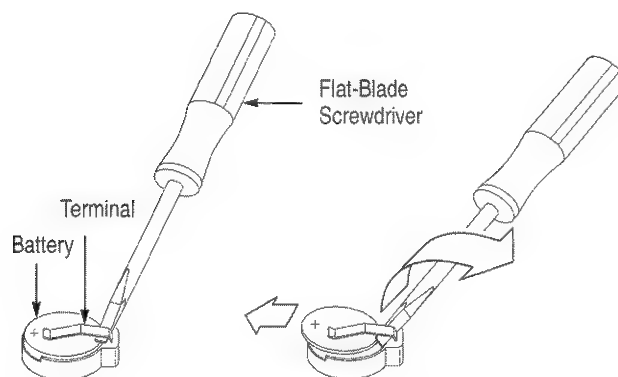

Figure 7-9: Prying Battery Terminal to Remove Battery
1. Using a small flat-blade screwdriver, gently pry against the battery terminal as shown in Figure 7-9 until the battery just starts to slide out.